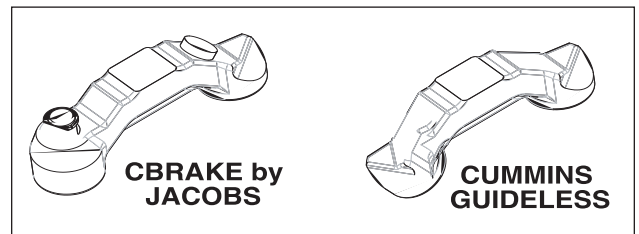

FIG. 3
6. Remove exhaust crossheads and replace with CBrake by Jacobs Cross™heads (Fig. 3).
14. Remove exhaust crossheads and replace with CBrake by Jacobs™ crossheads (Fig. 3).